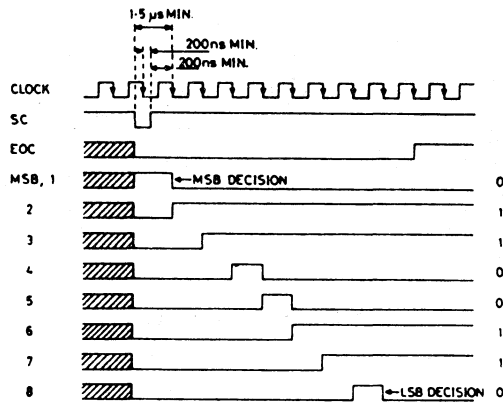

Fig. 3 Timing diagram
Operation of the ZN427 is best described with reference to the timing diagram - Fig. 3. Conversion is initiated by a START CONVERT (SC) pulse which can be applied asynchronously with respect to the ZN427 clock providing the following criteria are met.